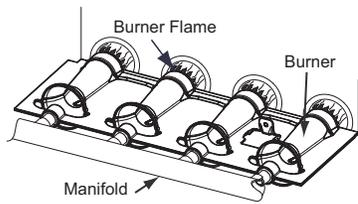
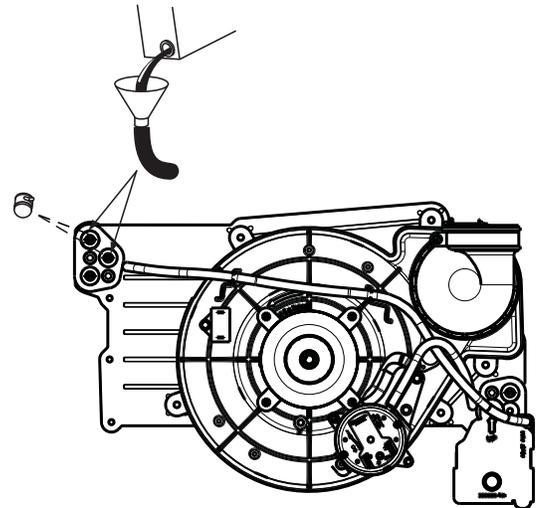

Fig. 22 – Burner Flame Adjustment
Fig. 23 – Winterizing Furnace
- b. Slide air filter out of furnace. Keep dirty side up (if dirty) to avoid spilling dirt (see Fig. 22 and Fig. 23).
5. Start your furnace and observe its operation. Watch the burner flames to see if they are clear blue, almost transparent (see Fig. 22).
- Remove one of the unused rubber plugs in the port on the collector box opposite the condensate trap. See Fig. 23